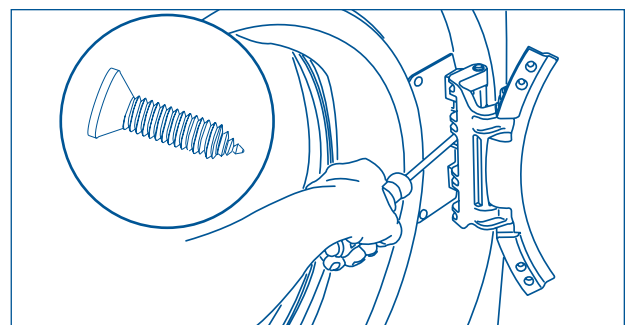

Figure 2-22.
4. Use the side locating pins to align the hinge and install 1 short, fine-thread, counter-sunk screw in the center hole of hinge side. (See Figure 2-22)